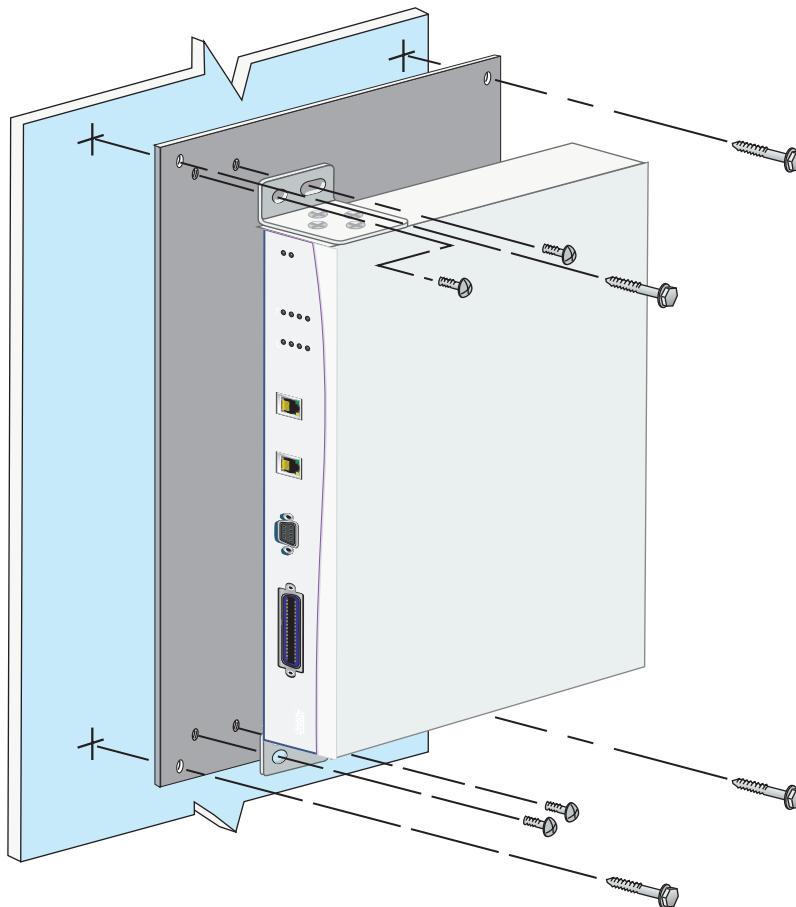

Figure 8. Wallmounting the Total Access 238
2.	<p>Decide on a location for the Total Access 238. The unit needs to be mounted at or below eye-level so that the LEDs are viewable.</p> <p>IMPORTANT! Mount the chassis with LEDs facing to the side as shown in Figure 8 on page 9 (not facing up or down).</p>